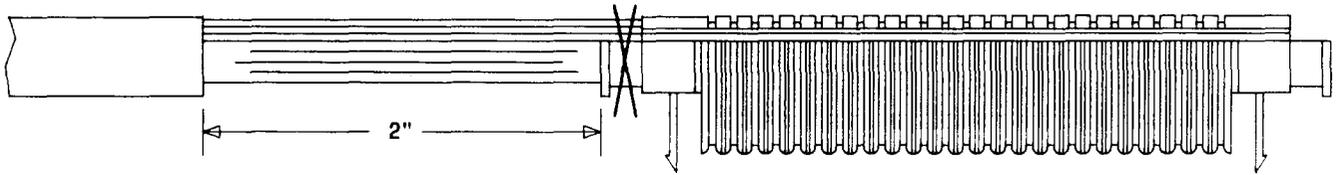

Fig. 15—Alignment of Cable and Cap
5.07 Rotate the cap 180 degrees. Place the wires in the appropriate slots and tie as shown in Fig. 15.